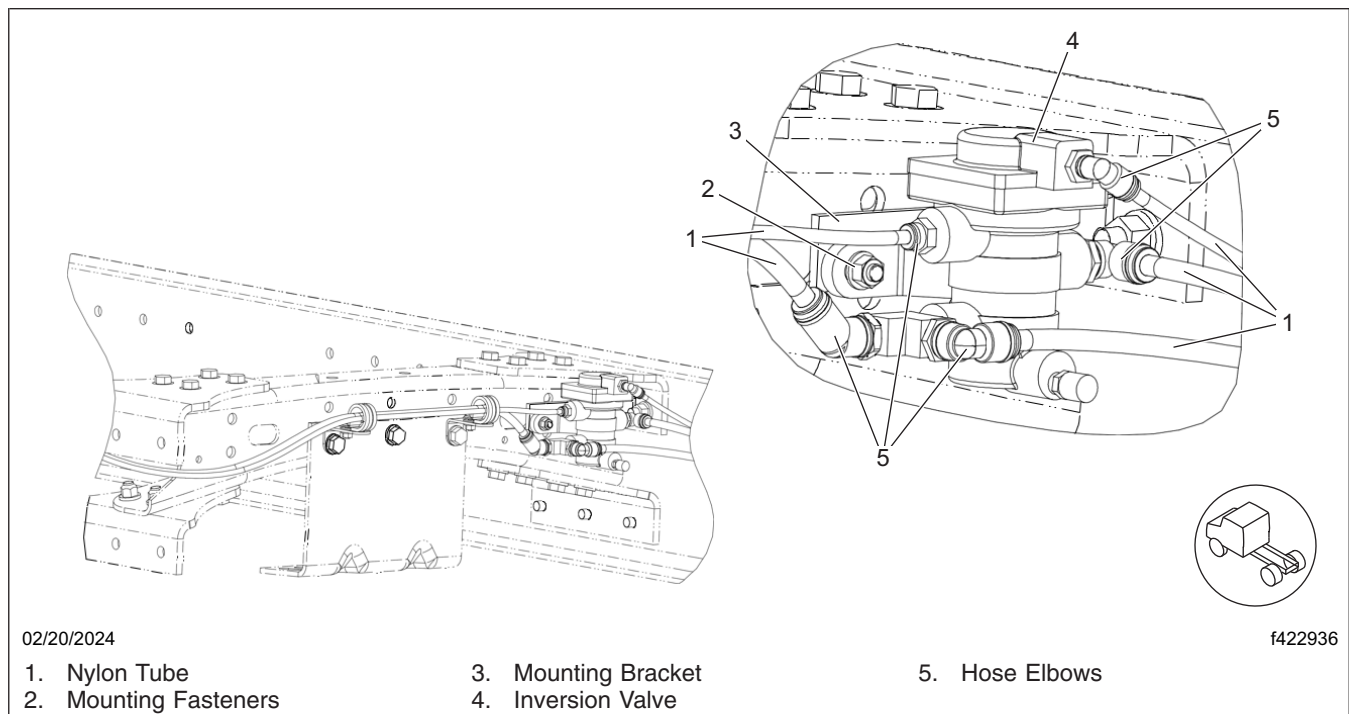

Fig. 1, Location of the Inversion Valve
6. Remove the two mounting bolts from the inversion valve. Remove the valve from the vehicle. See **Fig. 1**.